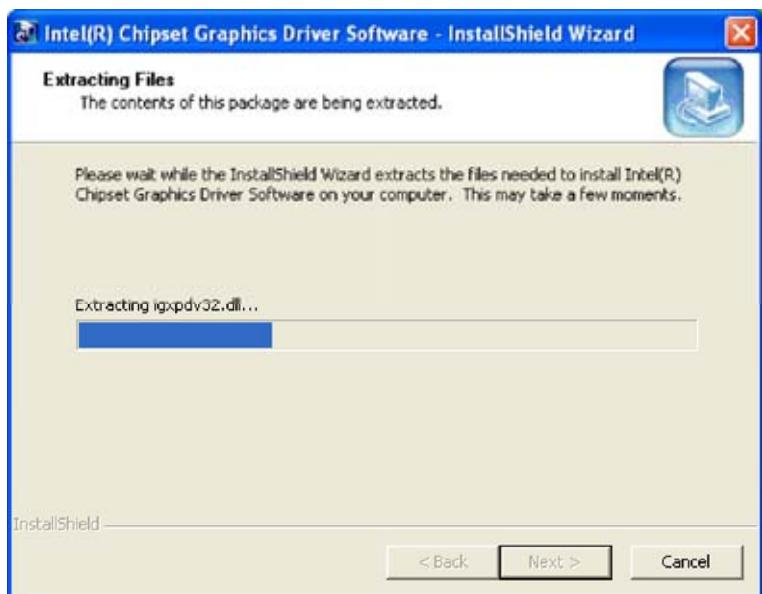

Figure 7-10: VGA Driver Setup Files Extracted
Step 24: The installation files are extracted. See **Figure 7-10**.